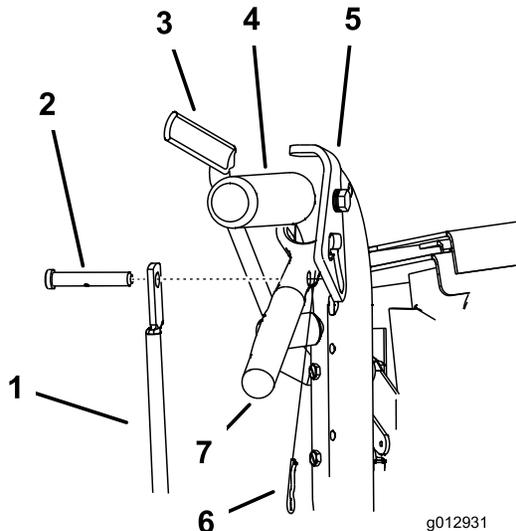

Figure 18
1. Remove the hairpin cotter pins and clevis pins from the drive levers and neutral locks (Figure 18).
5. Adjust the control rod length by rotating the control rod in the rod fitting (Figure 18).
6. Install a hairpin cotter between the drive levers and neutral locks and into the clevis pins (Figure 18).